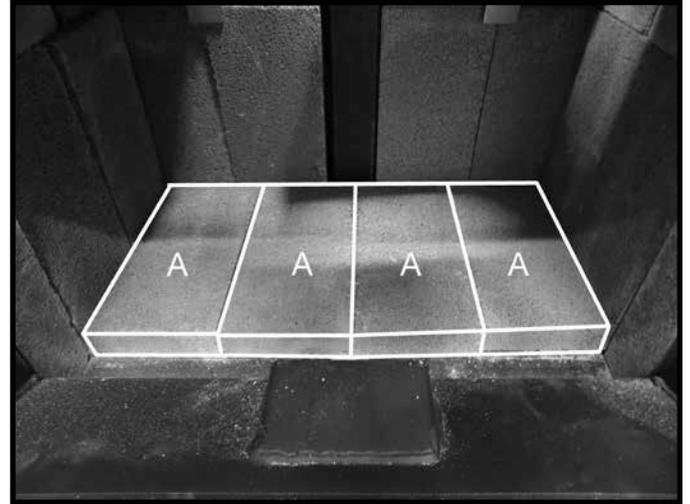

Figure 29: Four floor bricks in place.
7. Place four "A" firebricks on the firebox floor as shown in Figure 29.